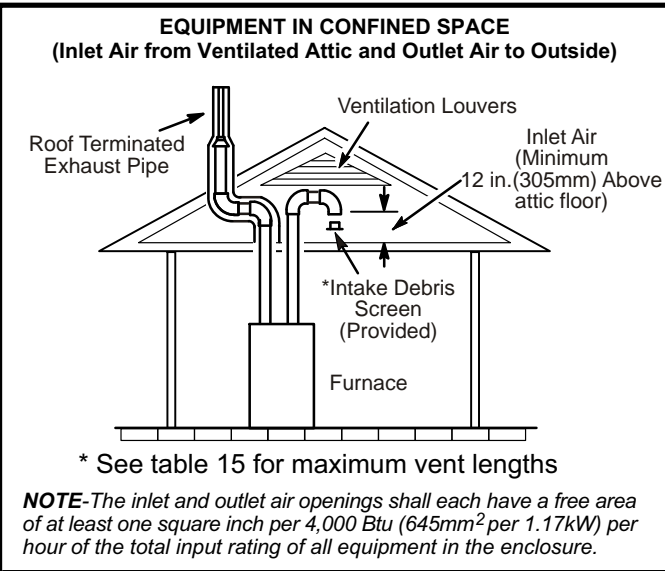
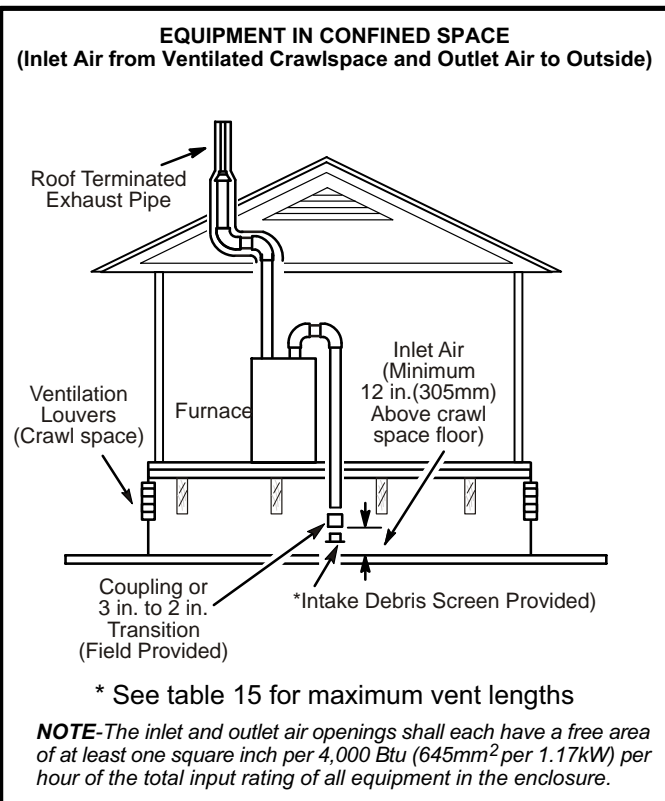

FIGURE 33
FIGURE 34
- 2 - If intake air is drawn from a ventilated attic (figure 33) or ventilated crawlspace (figure 34) the exhaust vent length must not exceed those listed in table 15. If 3" diameter pipe is used, reduce to 2" diameter pipe at the termination point to accommodate the debris screen.